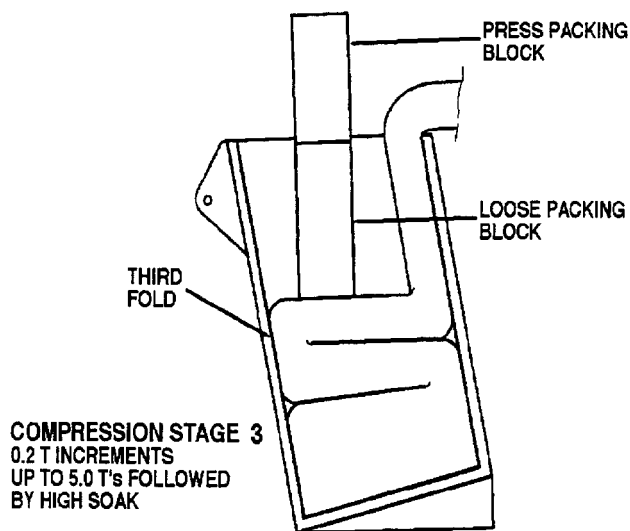

Figure 51. Compressing Deployment Sleeve - Stage 3
(1) Both indicator lights extinguish.
(2) Both displays, LOAD SET display indicates value extinguished; LOAD display indicates load applied.
a. Fold the deployment sleeve to the front, push down as flat as possible ensuring that the fold is abutting the aft face of the container (Figure 51).